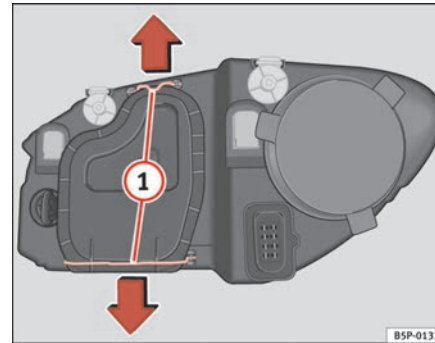

Fig. 178 Dipped head-lights
- Remove the loops ⇒ page 254, fig. 178 ① in the direction of the arrow and remove the cover.